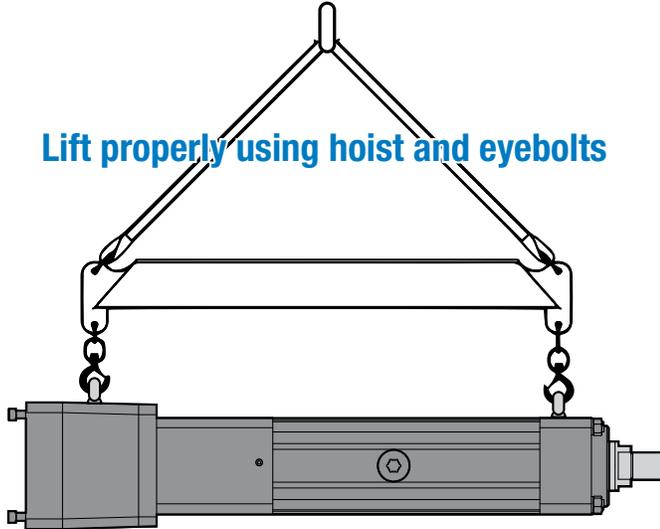

Figure 4-1 Lift RSX properly using hoist and eyebolts
**NOTE** For an RSX080 equipped with an RP (reverse parallel) motor mount, during lifting the reverse parallel housing must be oriented vertically pointing upwards (as shown in Figure 4-1).